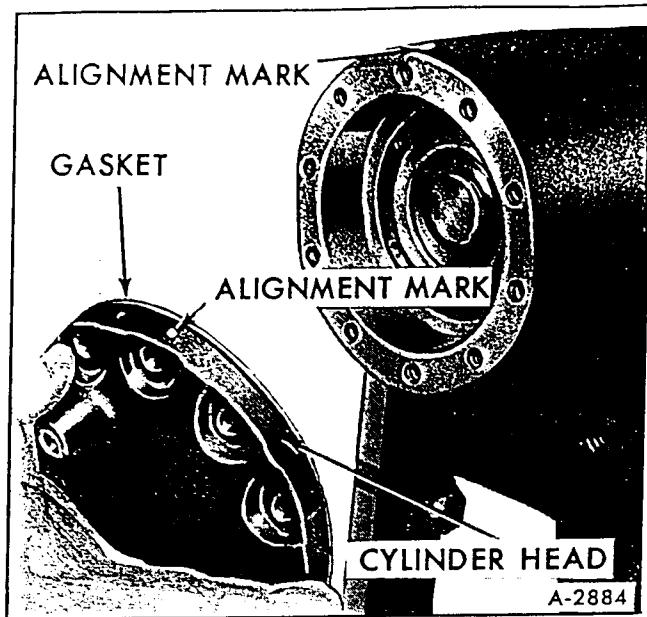

Figure 14 – Removing Cylinder Head (Typical)
9. Remove bolts from cylinder head then remove cylinder head and gasket from housing (fig. 14).